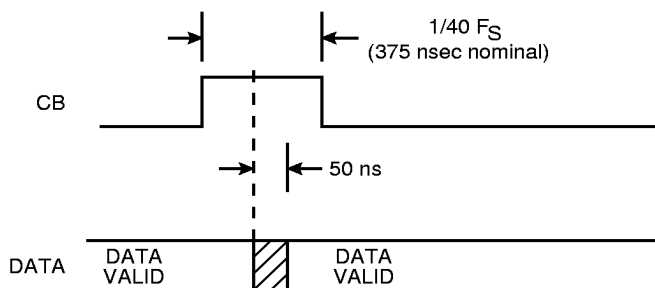

FIGURE 15. CONVERTER BUSY TIMING
The Converter Busy (CB) signal indicates that the tracking converter output angle is changing 1 LSB. As shown in FIGURE 15, output data is valid 50 ns maximum after the middle of the CB pulse. CB pulse width is 1/40 F_s, which is nominally 375 ns.